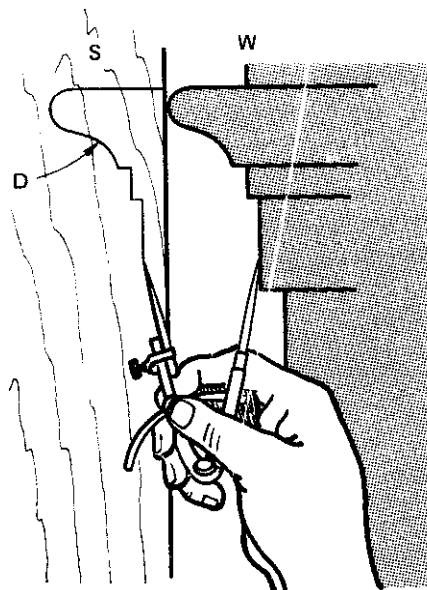

Fig. 4-43 Scribing in an irregular surface
1. To use the dividers as a scribe, set the piece of stock, figure 4-43, against the irregular surface W, to which the stock is to be fitted.